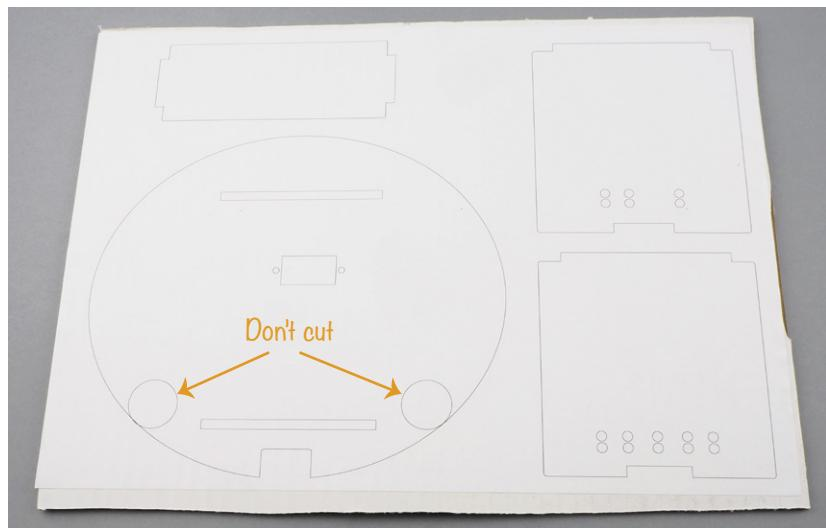
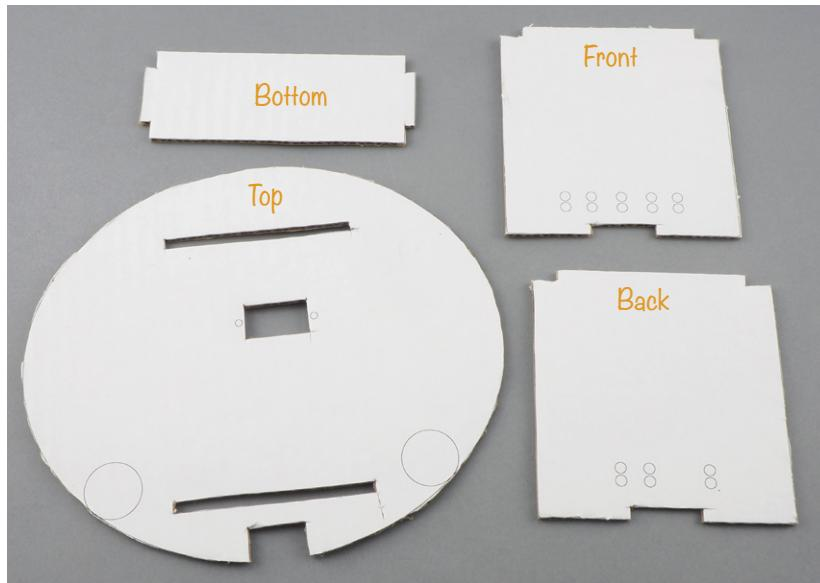

Figure 6-10: The paper template glued to a piece of cardboard
Figure 6-11: The cardboard pieces for the chassis
- Now let's start assembling the cardboard chassis that will hold everything together. To make this easier, I've provided a template that can be downloaded with the code for the book. The template is in the folder *other downloads* and is called *Animatronic\_Head\_Template*. It is available in PDF, PNG, and SVG formats. Download it, print it out, and fix it onto a slightly larger piece of cardboard, as shown in Figure 6-10.
- Except for the places noted in Figure 6-10, cut along the lines. This will give you the pieces of cardboard shown in Figure 6-11. For many of the cuts, scissors will be fine, but